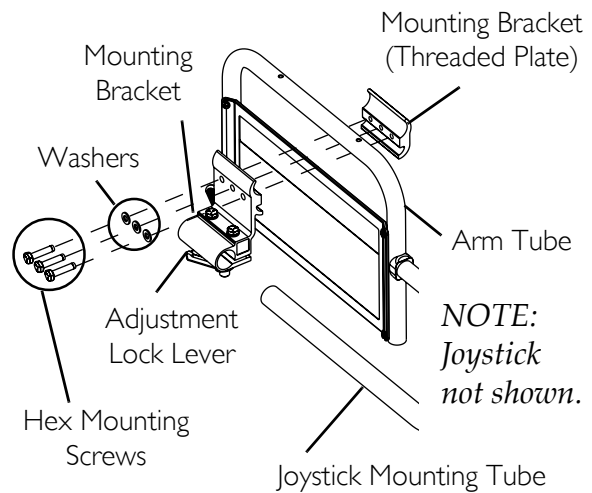

FIGURE 5.9 Repositioning Joystick
NOTE: For this procedure, refer to FIGURE 5.9.
4. Reposition mounting bracket on opposite arm tube ensuring the threaded plate of the mounting bracket is on the inside of the arm tube as shown in FIGURE 5.9.